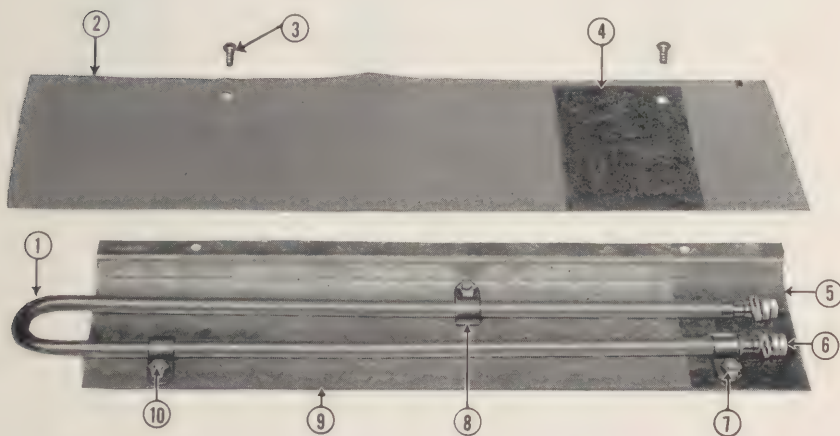

Figure 35. Heater unit assembly.
- (4) Remove 3 screws, SR00141 (fig 35, item 10), from the clamps, 9R27246 (fig 35, item 8), supporting the heater element.
- (5) Disconnect the cable leads from the terminals (fig 35, item 6).
- (1) Connect the cable leads to the terminals of the heating unit (fig 35, item 6).
- (2) Place small mica insulator between guard and terminals and align holes (fig 35, item 5).
- (3) Fasten heater element to guard, 9R27244 (fig 35, item 9), by means of 3 clamps, screws and nuts as shown in fig 35.
- (4) Place into position at the rear of the cabinet aligning all holes to conform with the holes in the rear of the compartment so as to permit the assembly of the asbestos pad (item 2) mica insulator (item 4) and guard (item 9) in sequence as shown in fig 35.